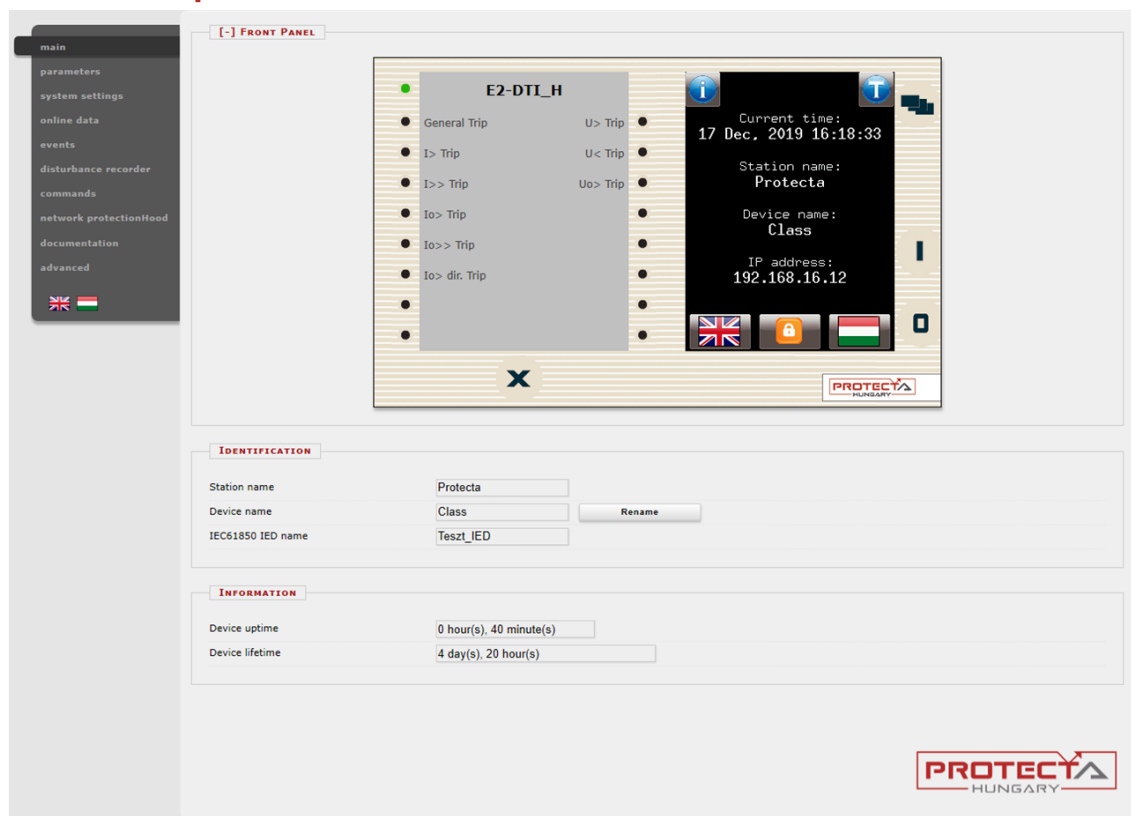

Figure 4-4 Main menu
The front panel of the device can be controlled from here (Figure 4-4). The image in the center of the screen behaves the same way as the touch screen and the LEDs, except the on (1) and the off (0) buttons. These two buttons are inactive for security reasons.